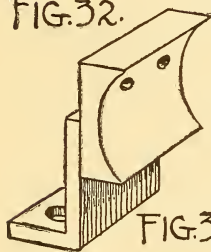
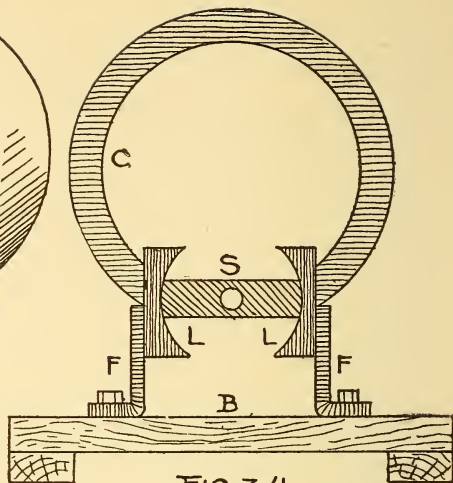

FIG. 33.
FIG. 34.
receive machine-screws. Two lugs are to be made from wrought-iron to fit on these ends. These should be four inches long, an inch and a half high, and three-quarters of an inch thick at top and bottom. They should be hollowed out at the middle, so that an armature two inches in diameter will have one-eighth of an inch play all around when arranged to revolve within them. Holes are made through the lugs to receive machine-screws, which are driven into the holes in the ends of the iron (C). Wrought-iron L pieces are made one inch and a half high and an inch across the bottom, and with machine-screws they are made fast to the backs of the lugs to act as feet on which the field-magnet may rest, as shown in Fig. 33. Across the back of the lugs, and set away from them by fibre washers, a strap of brass is made fast. This measures three-quarters of an inch wide and a quarter of an inch thick, and at the middle of it a three-eighth-inch hole is bored to receive the rear end of the armature shaft. This is shown in Fig. 34, which is a front view of the field, or C, iron, the lugs (L L) and feet (F F), the armature bearing (S), and the base (B), of three-quarter-inch hard-wood. The field-magnet is bolted to the base with lag-screws, so that it will be held securely in place.